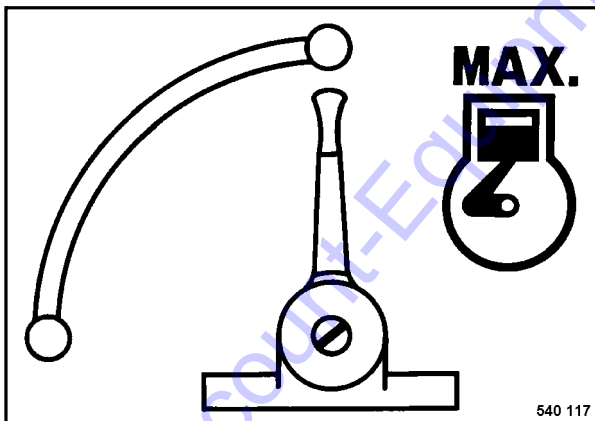

Fig. 2
- Set the throttle lever (Fig. 2) to "MAX"-position.